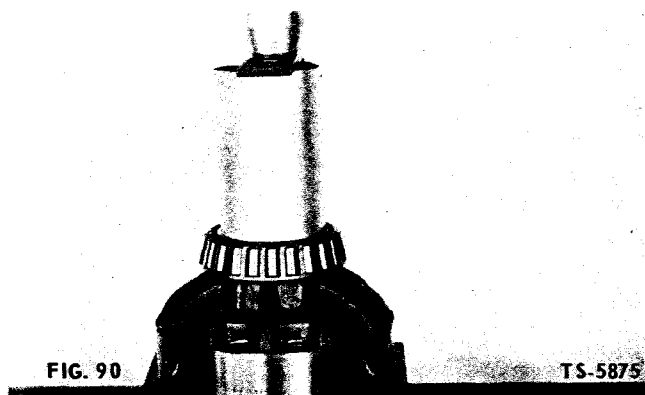
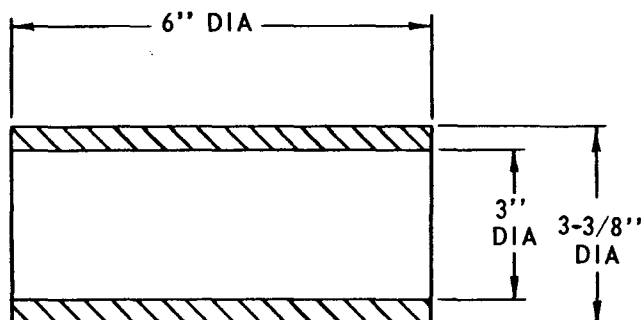

FIG. 90
FIG. 91
1. Press differential bearing cones on case halves (Fig. 90). Bearing driver dimensions are given in Fig. 91.